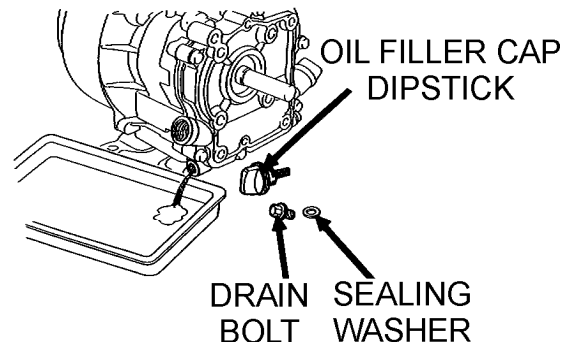

Figure 22. Draining Engine Oil
2. Drain the engine oil when the oil is warm as shown in Figure 22.